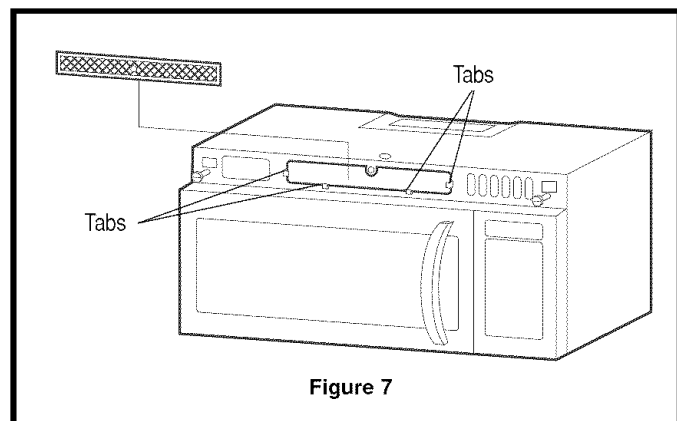

Figure 7
3. Charcoal Filter, included with the unit, is required for recirculating exhaust. Attach the Charcoal Filter to the upper side of the oven by sliding into the tabs. See Figure 7. The Charcoal Filter should be replaced every 6 to 12 months, depending on use.